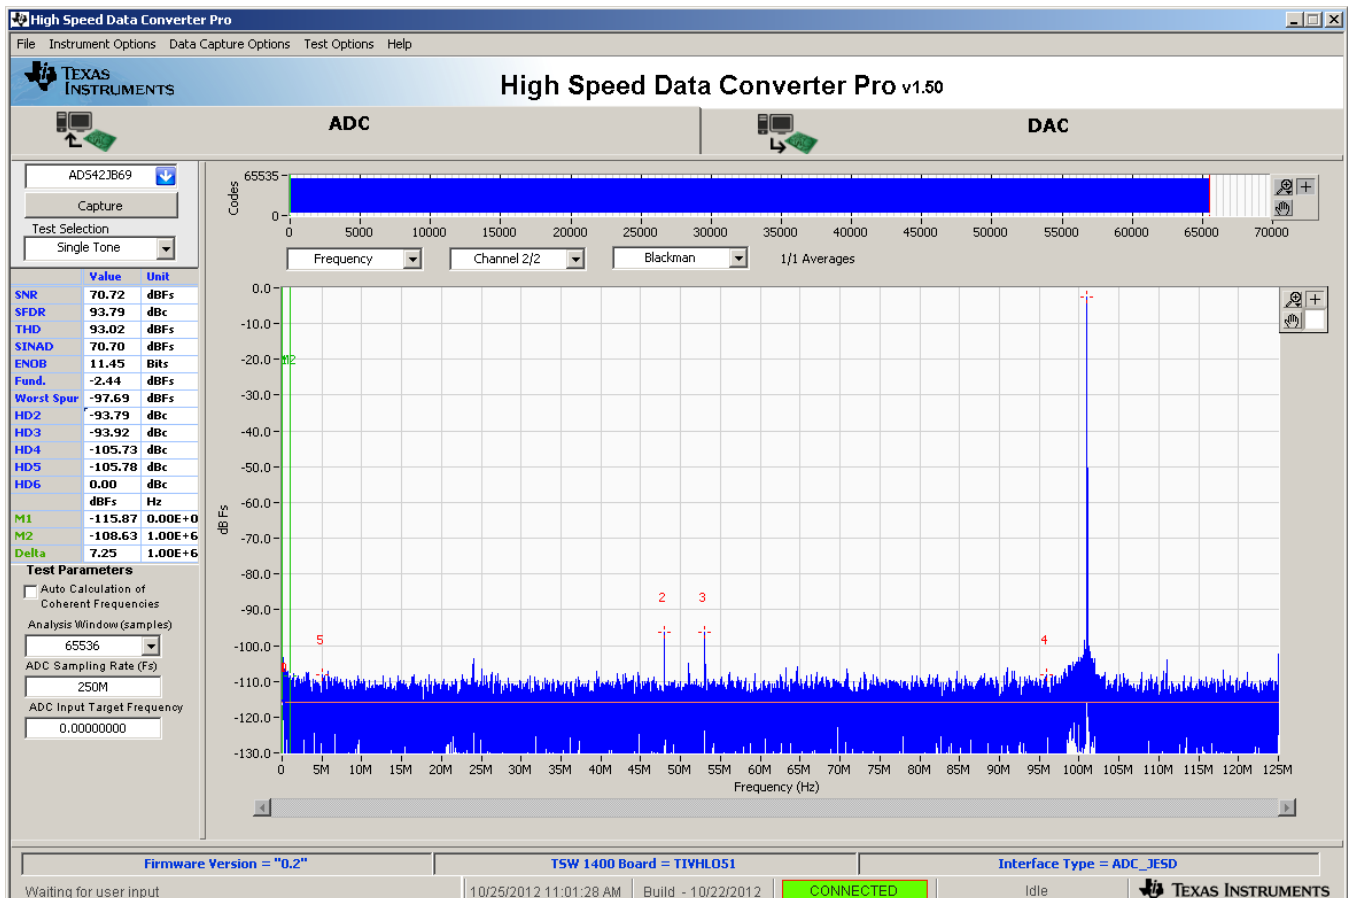

Figure 12. High Speed Data Converter Pro (HSDCPro) Sample Capture
8. All boards and software are now setup. Click the **Capture** button. A sample capture is shown in Figure 12 for the ADS42JB69 with a 250-MHz clock and 100-MHz input frequency.